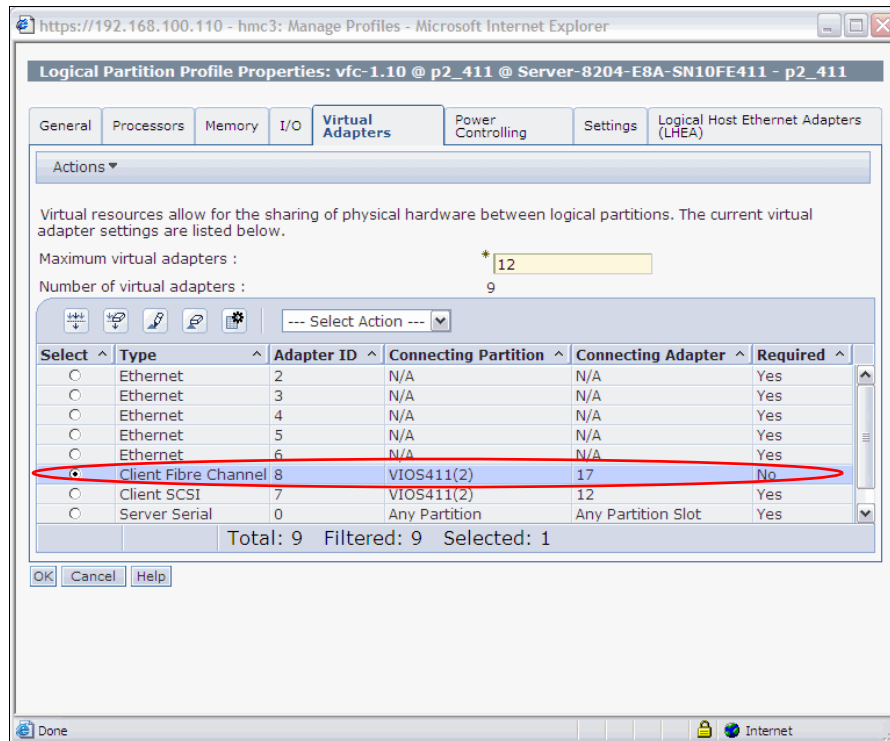

Figure 5-25 Virtual Fibre Channel adapter added to client profile
5. In the profile of the source partition that was shut down previously, remove the virtual SCSI client adapters from the partition profile and add a virtual Fibre Channel adapter. You will see something similar to the highlighted line in Figure 5-25 on page 141 when this step is complete.